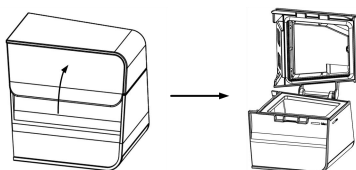

Fig. 18-2
- (2) Open the cap of the Water Chamber as shown in Fig. 18-2 and discard any remaining water.